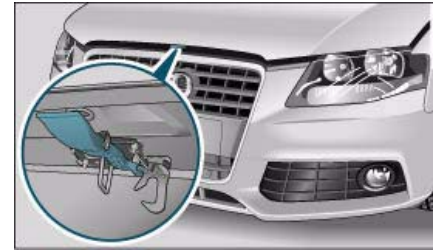

Fig. 251 Release catch under the bonnet
- Press the release catch under the bonnet upwards ⇒ fig. 251. This will release the arrester hook.